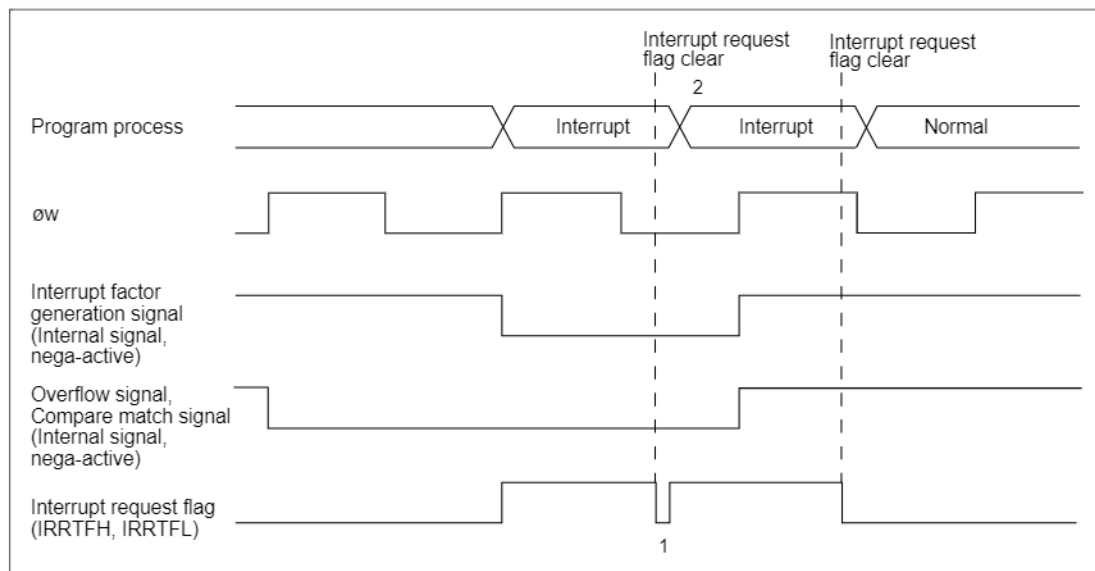

Figure 9.6 Clear Interrupt Request Flag when Interrupt Factor Generation Signal is Valid
When $\phi_w/4$ is selected as the internal clock, “Interrupt factor generation signal” will be operated with ϕ_w and the signal will be outputted with ϕ_w width. And, “Overflow signal” and “Compare match signal” are controlled with 2 cycles of ϕ_w signals. Those signals are outputted with 2 cycles width of ϕ_w (figure 9.6)
In active (high-speed, medium-speed) mode, even if you cleared interrupt request flag during the term of validity of “Interrupt factor generation signal”, same interrupt request flag is set. (figure 9.6 1) And, you cannot be cleared timer overflow flag and compare match flag during the term of validity of “Overflow signal” and “Compare match signal”.
For interrupt request flag is set right after interrupt request is cleared, interrupt process to one time timer FH, timer FL interrupt might be repeated. (figure 9.6 2) Therefore, to definitely clear interrupt request flag in active (high-speed, medium-speed) mode, clear should be processed after the time that calculated with below (1) formula. And, to definitely clear timer overflow flag and compare match flag, clear should be processed after read timer control status register F (TCSR) after the time that calculated with below (1) formula. For ST of (1) formula, please substitute the longest number of execution states in used instruction. (10 states of RTE instruction when MULXU, DIVXU instruction is not used, 14 states when MULXU, DIVXU instruction is used) In subactive mode, there are not limitation for interrupt request flag, timer overflow flag, and compare match flag clear.